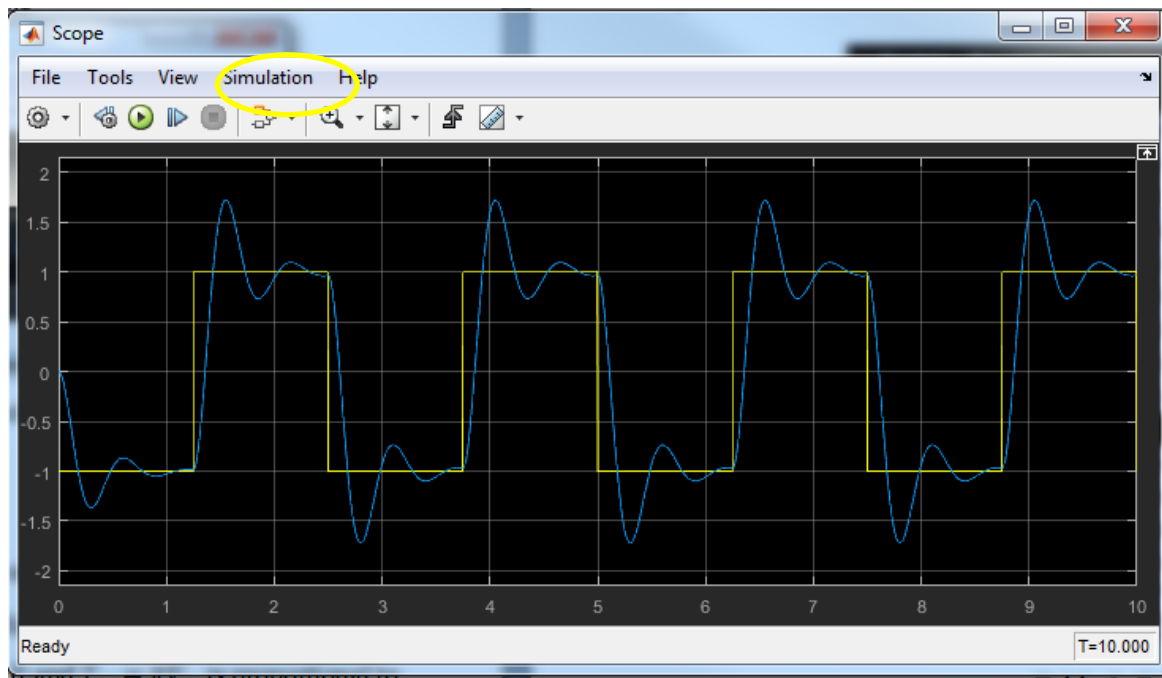

Figure 6. Scope screen-shot for the PID initial test.
Expand your Simulink model (Model 2) to include a PID controller for rotor angle, using the signal generator to create a square-wave reference signal, with amplitude = 1 radian and frequency 0.4 Hz. Selecting the PID gains $k_p = 1$, $k_d = 0$, $k_i = 0$, you should obtain the result shown in Figure 6. To give consistent results it is recommended to set the Simulink solver to Runge-Kutta (ode4), fixed-step = 0.001 (use 'Model Configuration Parameters' option in the 'Simulation' menu).
- After you obtain your best result, compare with the initial result similar to Figure 6 and point out which performance metrics have improved and by how much.